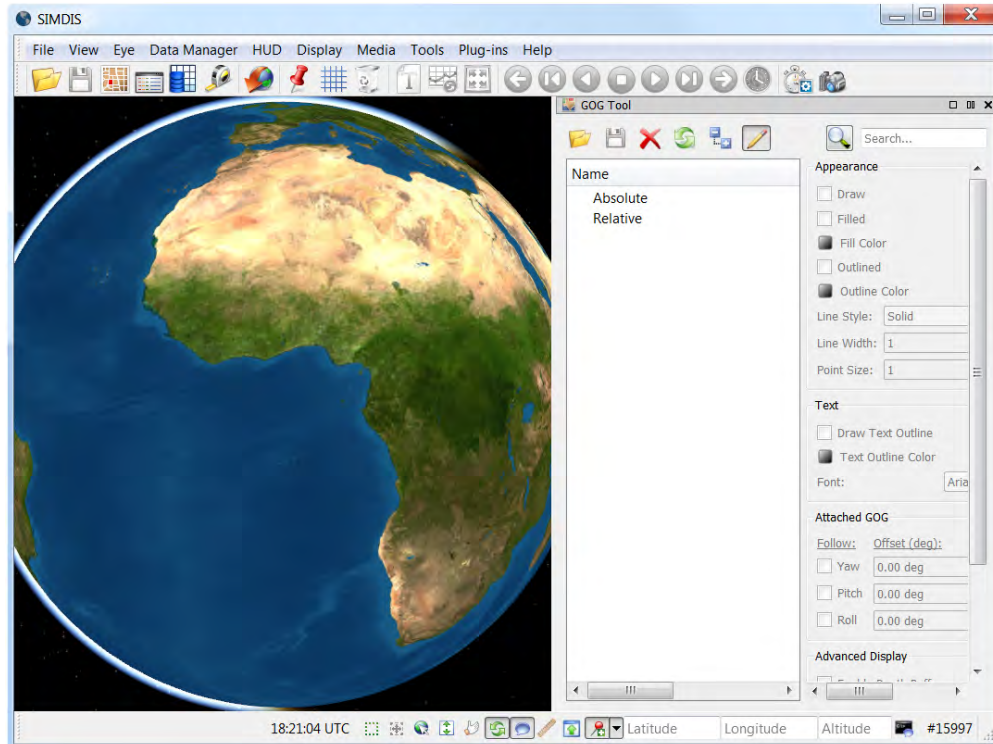

Figure 3.8: Docked Window
2. Release the mouse and the window will dock as shown in Figure 3.8.